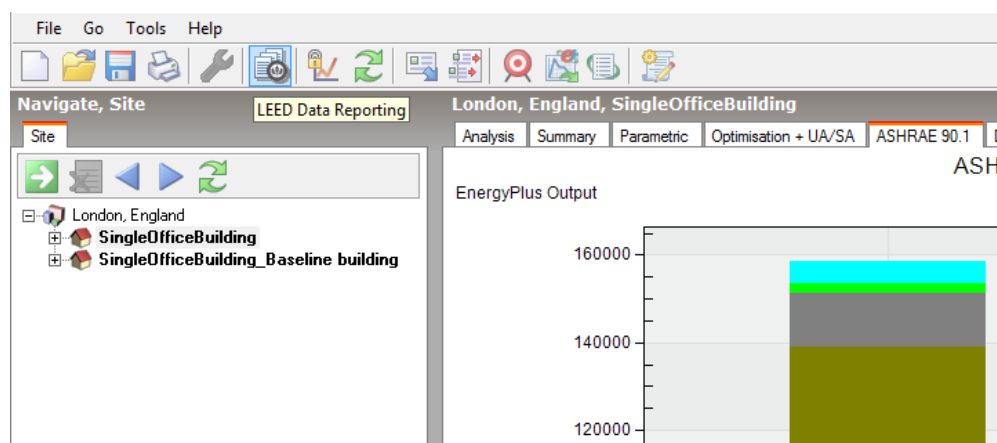

Figure 2. The icon that accesses to LEED Data Reporting tool
- To invoke the tool, click on the “LEED Data Reporting” toolbar icon, which is visible when the ASHRAE 90.1 tab on the Simulation screen is selected (Figure 2). The tool will automatically choose the corresponding reporting version depending on the selected energy code, i.e., ASHRAE 90.1-2010 or 2016.